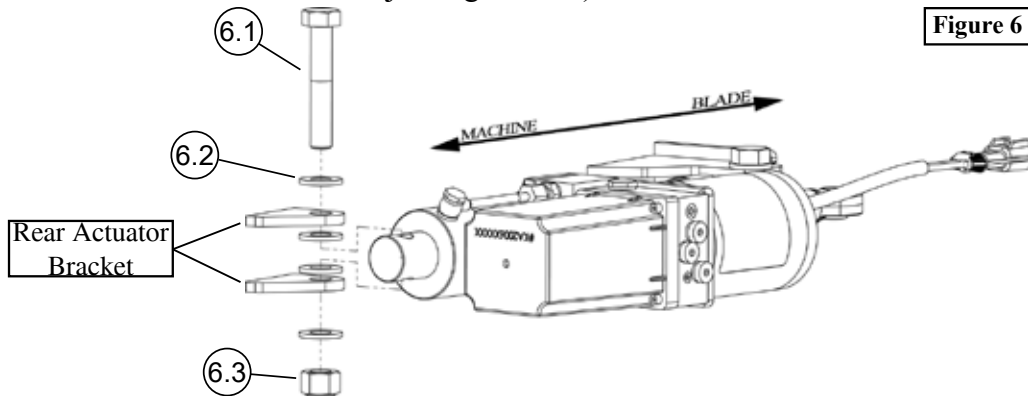

Figure 6
1. Place bolt (6.1) through flat washer (6.2), top tab of rear actuator bracket, flat washer (6.2), Hydraulic Actuator (5), flat washer (6.2), bottom tab of rear actuator bracket, and flat washer (6.2). Place nylock nut (6.3) onto bolt (6.1) as shown in Figure 6. (This orientation of hardware is just a guideline)